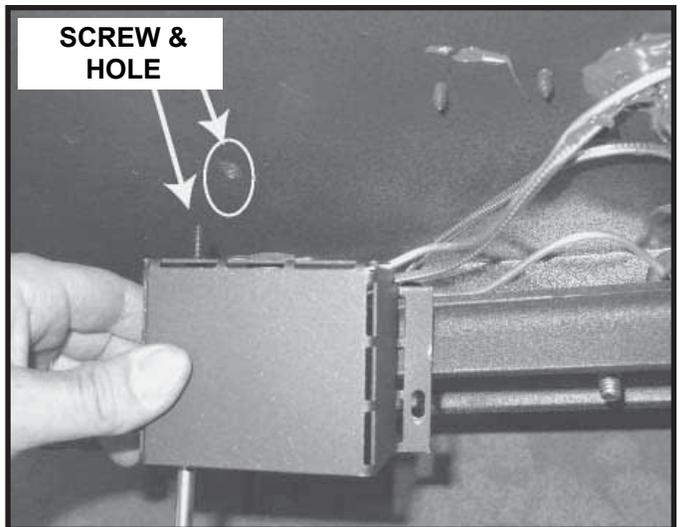

Figure 27
9. Using the same screw and hole from Step 8, mount the snap disc bracket through the hole on the top side to the appliance. See Figure 27.